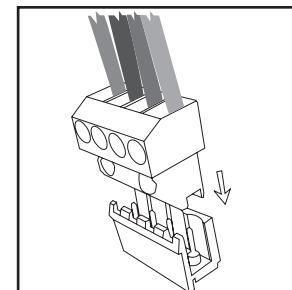

Figure 5
- Insert both input and output terminals into the proper locations on the volume control; see Figure 5.